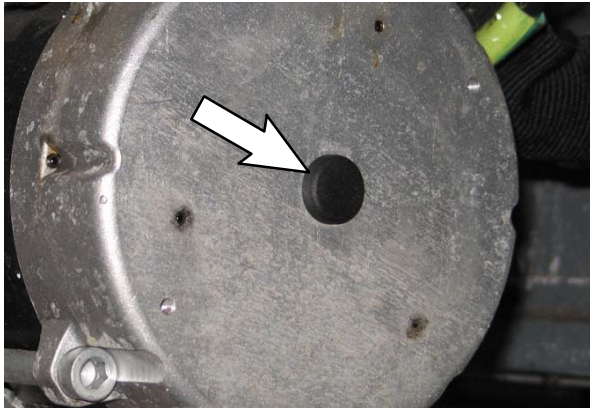

FIG. 10
15. **T17 machines only:** Check the front drive wheel motor for round plug. If the round plug is missing, install the new round plug (15). (Fig. 10 / Fig. 11)
If old round plug is installed, replace with new round plug (15). (Fig.10 / Fig. 11 / Fig. 12)